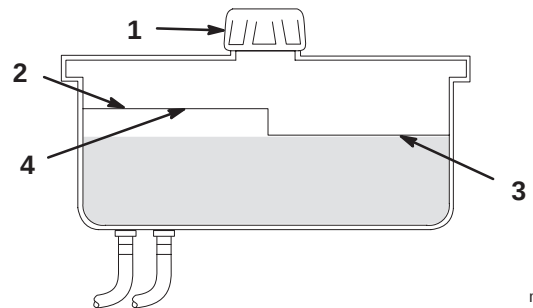

Figure 51
- Clean the area around the filler neck of the hydraulic tank (Fig. 51).
- Remove the cap from the filler neck. Look inside to check if there is fluid in the reservoir (Fig. 51).
Note: The fluid level should be to the top of the **hot** level of the baffle, when the fluid is warm (Fig. 51).